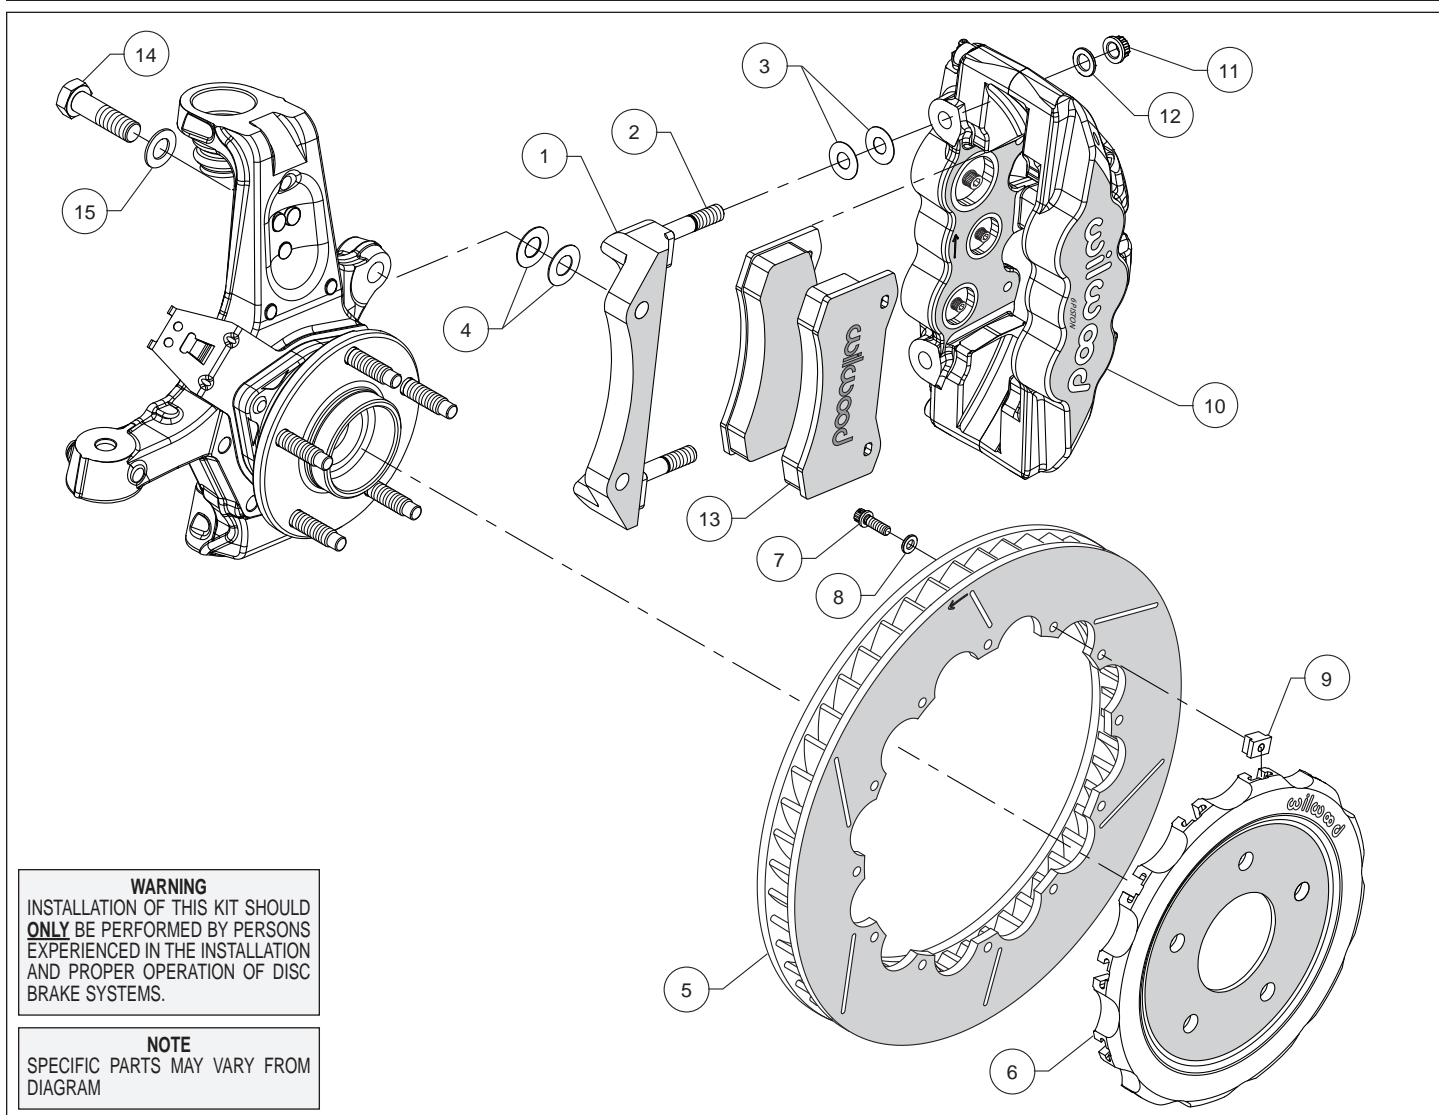
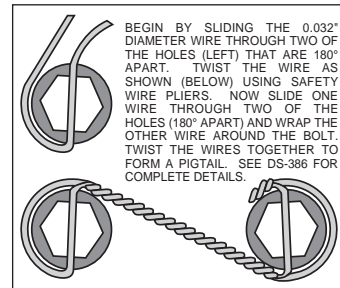

Figure 1. Typical Installation Configuration
Figure 3. Safety Wire Diagram
Assembly Instructions (numbers in parenthesis refer to the parts list and Figure 1 on the preceding pages):
- The caliper mount bracket (1) should initially be installed with clean, dry threads on the mounting bolts. Orient the bracket, as shown in Figure 1 and install using bolts (14) and washers (15). Initially place two .029" thick shims (4) on each bolt between the bracket and upright, Figure 1. Temporarily tighten the mounting bolts. **NOTE:** *The bracket must fit squarely against the mount bosses on the upright.* Inspect for interference from casting irregularities, machining ridges, burrs, etc. Later, after the caliper alignment has been checked, the mount bolts will be secured using red *Loctite*® 271.
- Orient the rotor (5) and the hat (6) as shown in Figure 1 and Photo 1. Assemble using bolts (7), washers (8), and t-nuts (9), Figure 1. Follow additional instructions included with the bolt kit. Using an alternating sequence, apply red *Loctite*® 271 to the threads, and torque to 120 **in-lbs**. For an added measure of security, the bolts may be safety wired using standard 0.032 inch diameter stainless steel safety wire as shown in Figure 3. Refer to Wilwood's data sheet DS-386 (available at www.wilwood.com/Pdf/DataSheets/ds386.pdf) for complete safety wire installation instructions.
- NOTE:** *This kit contains distinct right and left hand calipers that must be mounted in a specific direction, as described below.* Lubricate the caliper mounting studs (2) with lightweight oil. Initially place two .016" thick shims (3) on each stud between the caliper and the bracket, as shown in Figure 1 and Photo 2. Mount the caliper (10) onto the bracket (1) using lock nuts (11) and washers (12), Figure 1. Temporarily tighten the lock nuts. Ensure that the caliper is mounted so the largest pistons are at the rotor exit end of the caliper, in relation to the direction of the rotor. View the rotor through the top opening of the caliper. The rotor should be centered in the caliper, Photo 3. If not, adjust by adding or subtracting shims (4) between the bracket and the upright. Always use the same amount of shims on each of the two mounting bolts. Once the caliper alignment is correct, remove the bracket mounting bolts one at a time, apply red *Loctite*® 271 to the threads, and torque to 77 ft-lbs.
- Remove the two pad retaining pins from the caliper (10) by carefully popping out the pin retaining clips and sliding out the pins. Insert the brake pads (13) into the caliper from the bottom, Figure 1 and Photo 4. With the friction material facing the rotor, secure the brake pads in place with the pad retaining pins and clips, Photo 5. Reinstall the caliper onto the caliper mounting bracket and temporarily tighten the lock nuts. Check that the top of the brake pad is flush with the outside diameter of the rotor, Photo 6. If not, adjust by adding or subtracting shims (3) between the caliper and the bracket. After the caliper pad height is set, torque the caliper lock nuts (11) to 47 ft-lb.